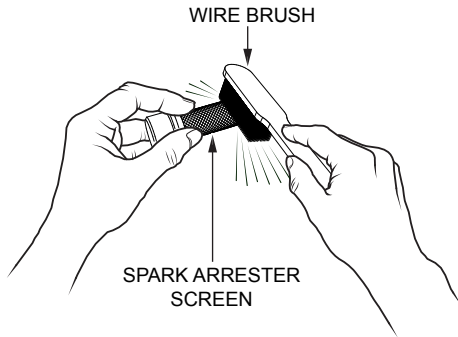

Figure 32. Cleaning The Spark Arrester
3. Carefully remove carbon deposits from the spark arrester screen (Figure 32) with a wire brush